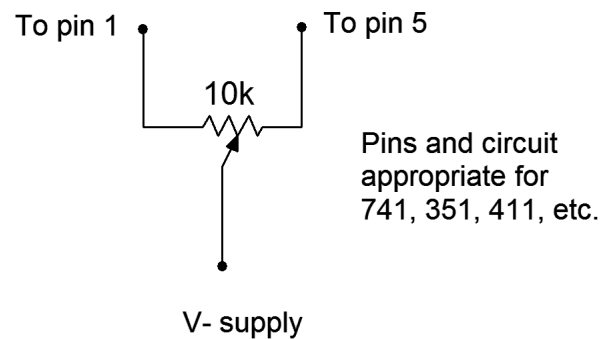

Figure 2
8. Manufacturers normally allow for output nulling through the addition of external circuitry. Modify the circuit by adding the components shown in Figure 2. Using the 47k Ω resistor for R_f , adjust the potentiometer to null the output. Also, record the DC output voltage with the potentiometer fully clockwise and fully counterclockwise.